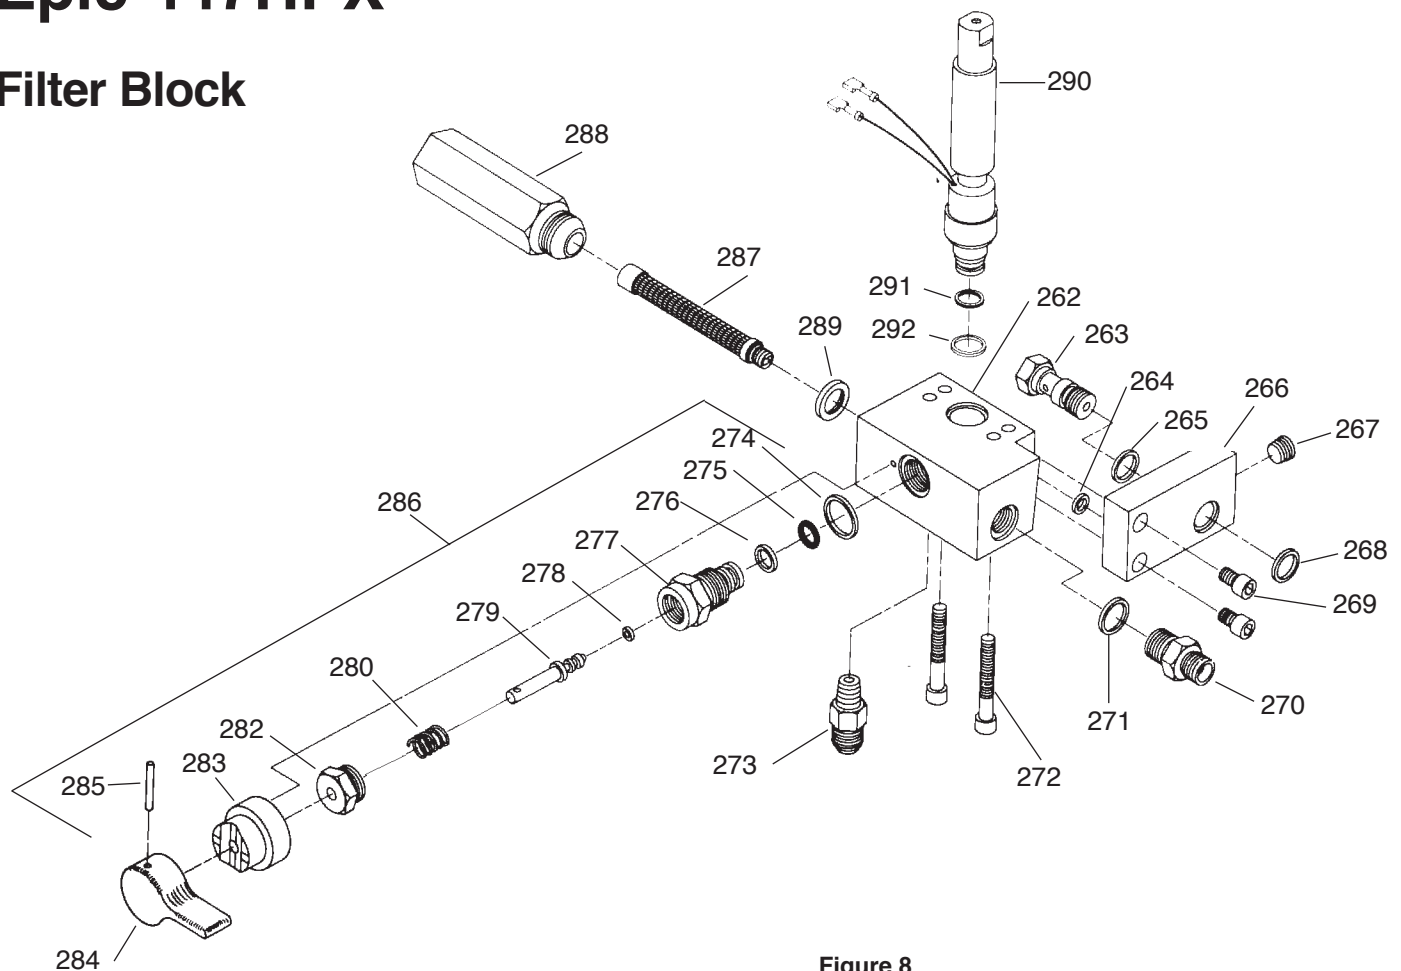

Figure 8
1. Remove the Groove Pin (#285) from Bypass Valve Handle (#284). Push out Pin as shown in Figure 8.